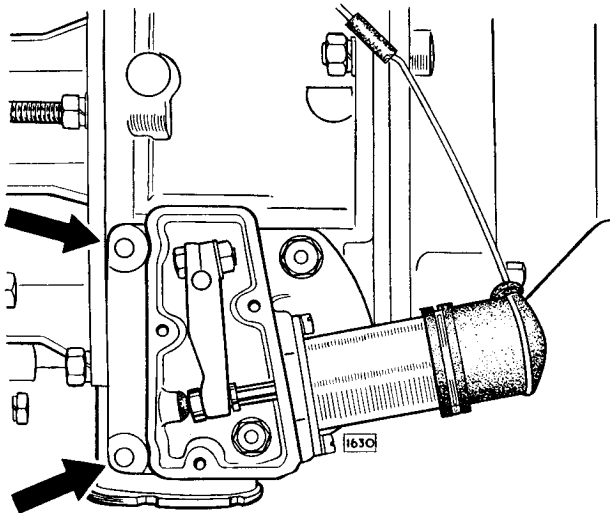

Fig. 35. Removing the solenoid bracket—remove the nuts from the studs before unscrewing the two setscrews.
6. The solenoid bracket is secured by two $\frac{5}{16}$ " (7.94 mm.) diameter studs and two $\frac{5}{16}$ " (7.94 mm.) diameter bolts, the heads of which are painted red (see Fig. 35). REMOVE THE NUTS FROM THE STUDS BEFORE TOUCHING THE BOLTS. THIS IS IMPORTANT. The two bolts should now be slackened off together, releasing the tension on the accumulator spring.